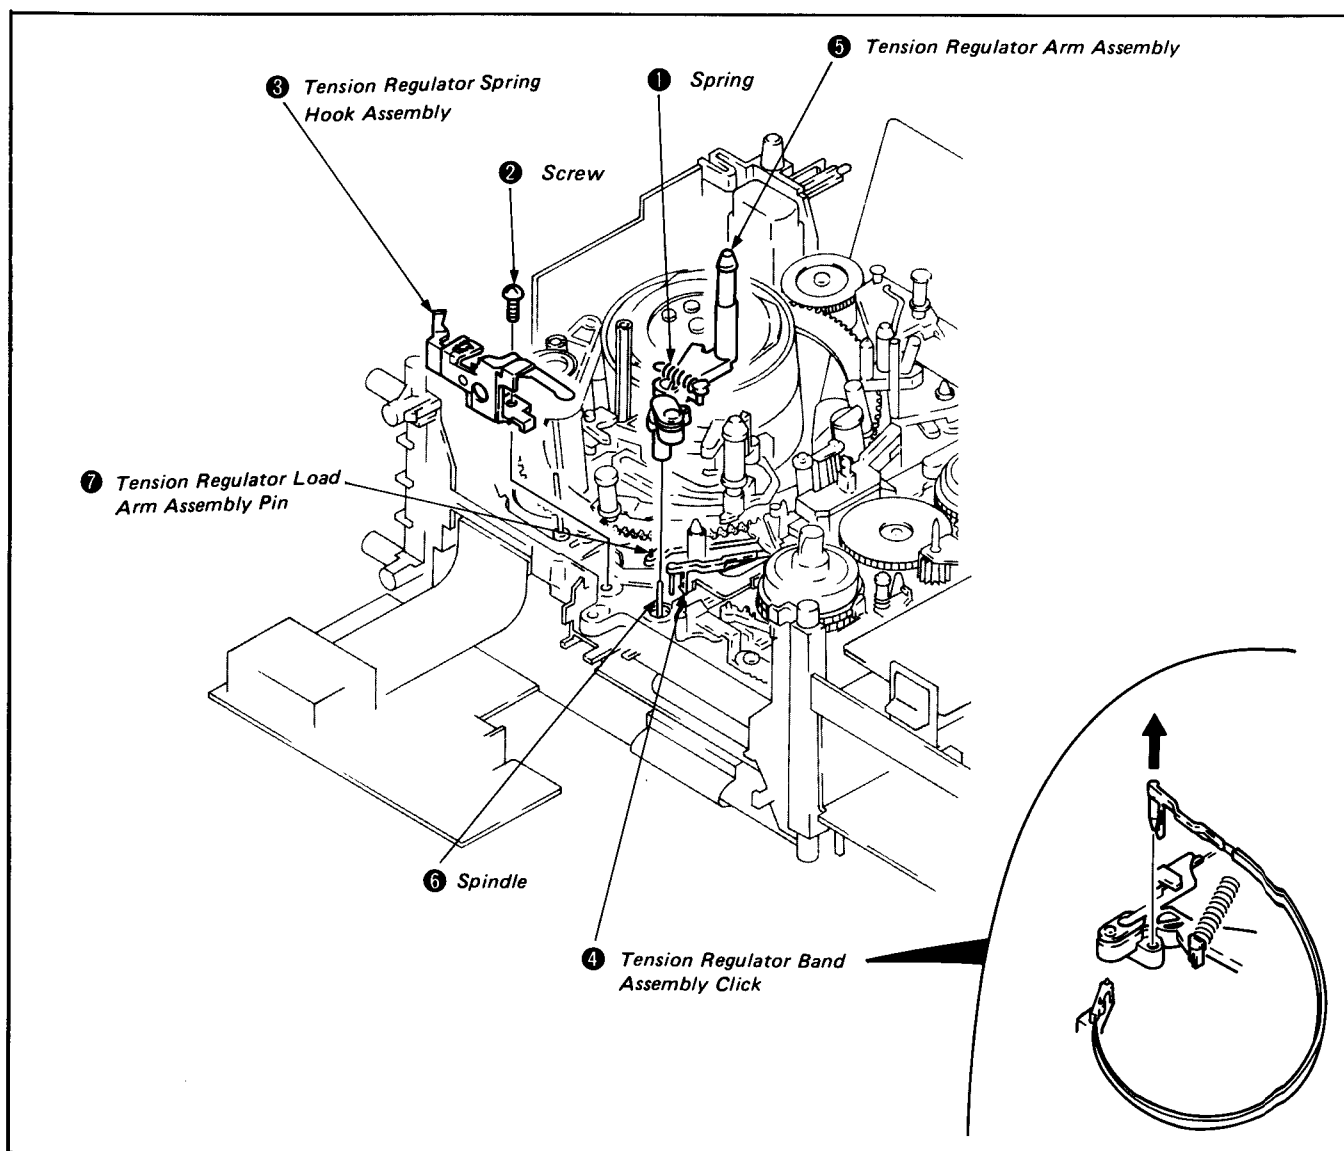

Fig. 8-10.
- 3) Remove the spring ①. (Write down the spring hooking position).
- 4) Remove the screw ② and tension regulator spring hook assembly ③.
- 6) Disengage the click ④ of the tension regulator band assembly.
- 7) Remove the tension regulator arm assembly ⑤. (See Fig. 8-10.)
- 1) Oil half a drop of oil on the spindle ⑥.
- 2) Remount the tension regulator arm assembly ⑤ inserting the tension regulator load arm assembly pin ⑦ in the cam groove on the rear side of the tension regulator arm assembly ⑤.
- 3) Reengage the tension regulator band assembly click ④. (Do not touch or deform the band.)
- 5) Remount the tension regulator spring hook assembly ③ and tighten the screw ②.
- 6) Rehook the spring ① in the previous position and lock the screw. (See Fig. 8-10.)